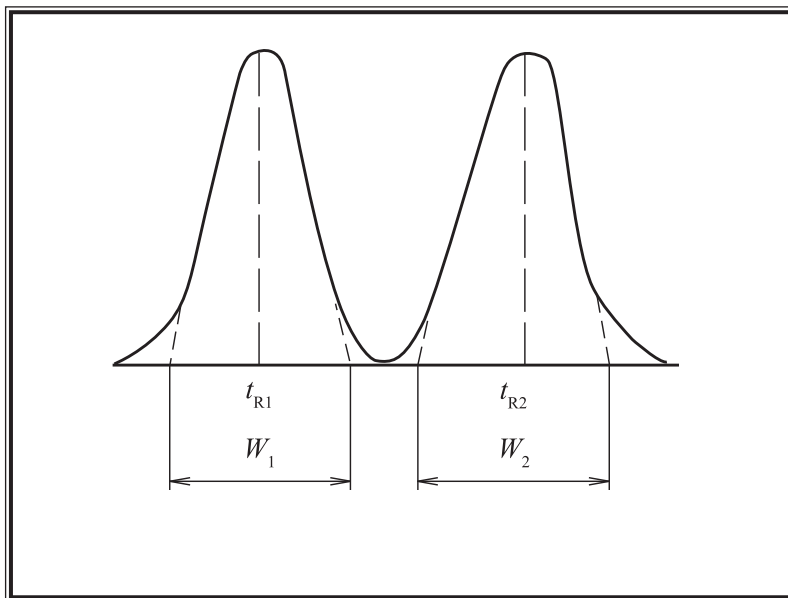

Figure 1 Parameters for calculation of resolution factor (R)
- (c) **Resolution factor (*R*)** – To ensure the accuracy of quantitative analysis, the *R* value (Fig. 1) of the analyte peak with the adjacent peak must be larger than 1.5, unless otherwise specified. The *R* value is calculated by using the following equation –